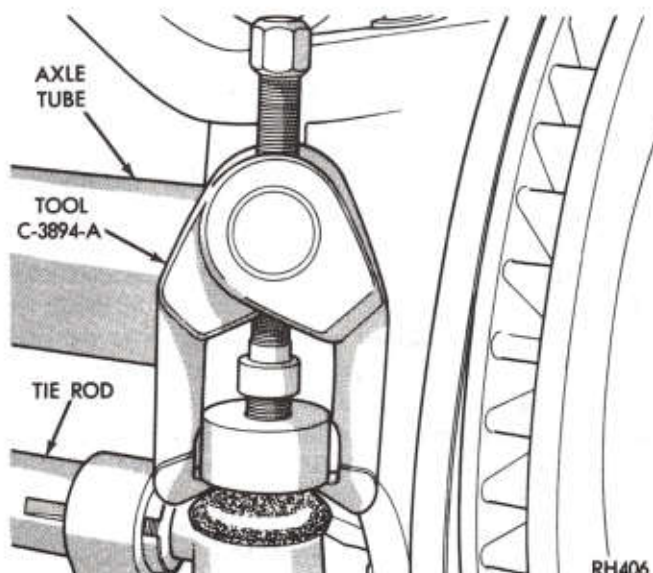

Fig. 18—Removing Tie Rod with Tool C-3894-A
(1) Raise vehicle and install jack stands.
(2) Turn wheels in direction necessary to give best possible access to tie rod end. Remove cotter key and nut. Loosen clamping bolt nut.
(3) Install puller Tool C-3894-A (Fig. 18). Apply sufficient pressure with tool to free tie rod end from steering knuckle. Measure and record approximate distance from end of tie rod to outside edge of tie rod end. Unscrew tie rod end.